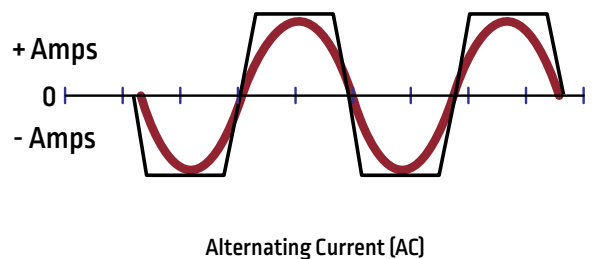

Figure 2-22: Alternating Current (AC) Shown in Both Sine Wave and Square Wave
Alternating Current (AC) (Figure 2-22):
The welding position in the SAW process is limited by the use of flux. Containing the flux around the welding arc is key to producing a consistent and quality weld. If the flux spills or moves away from the arc, welding quality will quickly deteriorate. Figure 2-22 shows weld positions 1F, 1G, 2F, and 2G, which are the only viable welding positions for SAW.